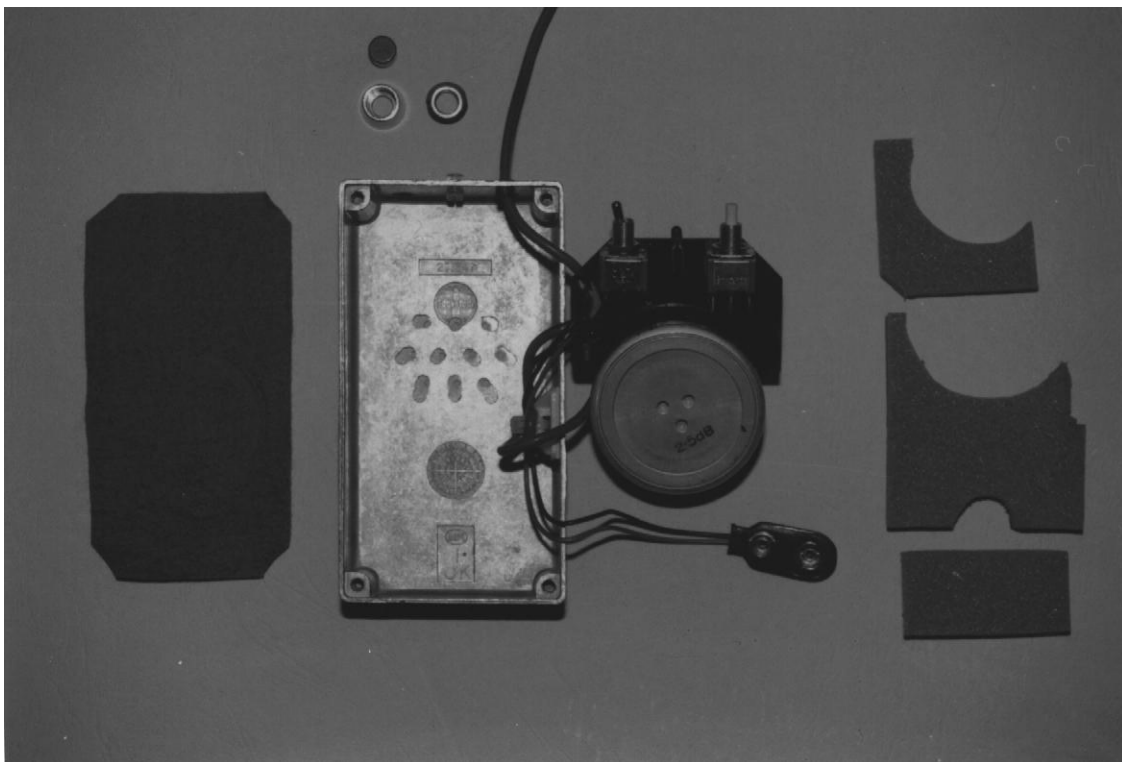

Figure 6: The disassembled Michiephone.
6. The circuit board and speaker can be gently manoeuvred out of the diecast box. Grasp the circuit board by the top edge and the speaker screws and slide it back towards the strain relief pad. There will then be just enough clearance for the switches and LED to clear their holes in the diecast box as you lift out the circuit board. The cable and battery wires can remain attached to the strain relief pad as in Figure 6.